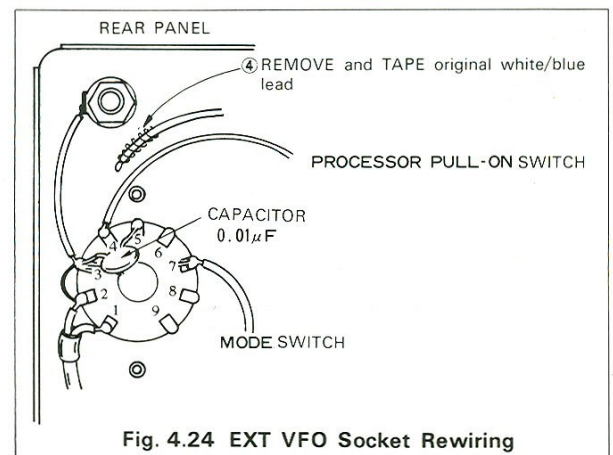

Fig. 4.24 EXT VFO Socket Rewiring
6. Remove the white/blue lead from pin "4" the EXT-VFO socket and tape insulate its end. Solder the supplied  $0.01\mu\text{F}$  capacitor to the EXT-VFO socket, pins "3" and "5". Solder a jumper between pins "2" and "3". Solder the new leads from the PROCESSOR switch to EXT-VFO pin "4", and from the MODE switch to pin "7". (Fig. 4-24).